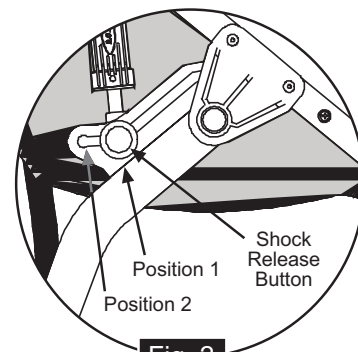

Fig. 2
2. SWINGARM: Rotate the swingarm away from the front of the stroller until the shocks engage in the first position (Fig. 2). Each shock locking pin will "snap" and lock into position 1.